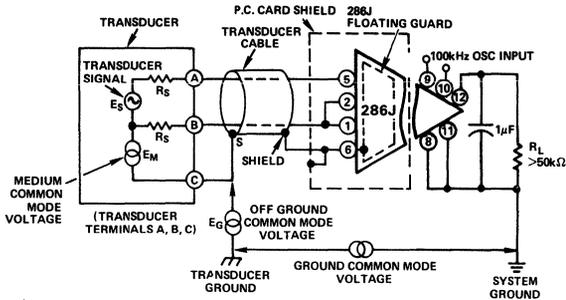

Figure 16. Transducer - Amplifier Interface
- Drive the transducer cable shield, S, with the common mode signal source, E_G , to reduce the effective cable capacitance as shown in Figure 16. This is accomplished by connecting the shield point S, as close as possible to the transducer signal low point B. This may not always be possible. In some cases the shield may be separated from signal low by a portion of the medium being measured (e.g. pressure transducer). This will cause a common mode signal, E_M , to be generated by the medium between the shield and the signal low. The 78dB CMR capability of model 286J between the input terminals (HI IN and LO IN) and GUARD, will work to suppress the common mode signal, E_M .